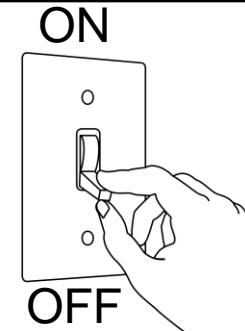

FIG. 2
2. Adjust the **bracket** according to the **can size**. [Fig. 2]
3. Push the **switch** to the desired color temperature. [Fig. 2]